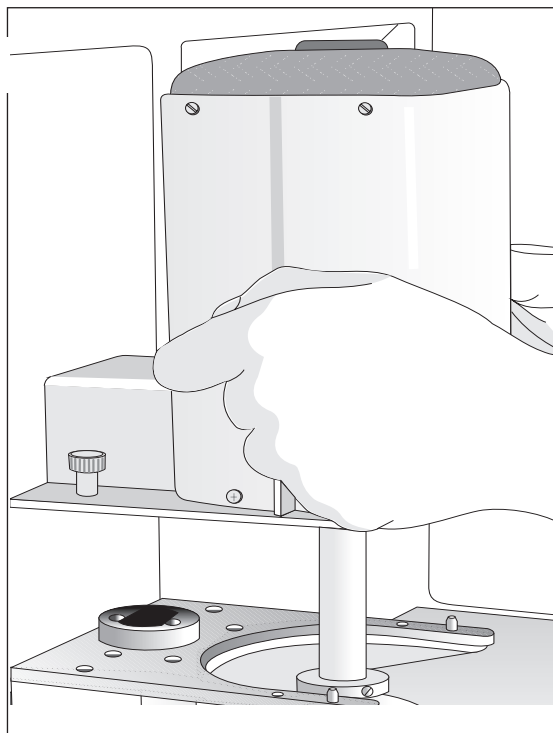

Figure DTA.10
1. Slowly lower the furnace over the furnace tube and, using the guide pins on the furnace base, seat the furnace on the furnace base (see Figure DTA.10).